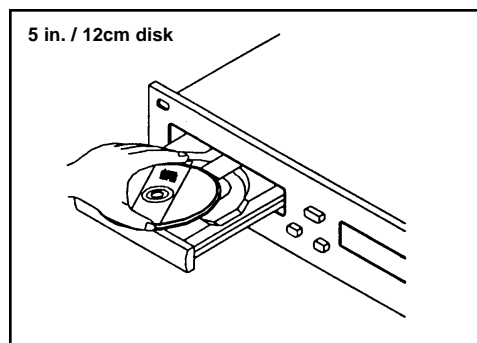
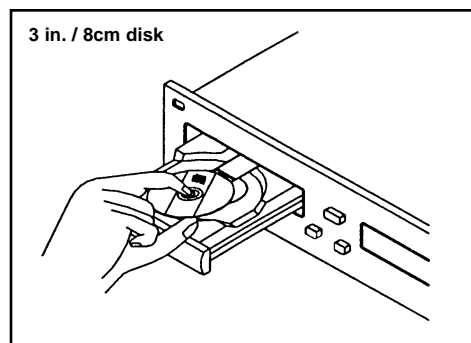

Fig. 8
Fig. 9
- When using 5 inch/12 cm discs, place the disc in the outer tray guides (Figure 8), and when using 3 inch/8 cm discs, place them securely in the inner guides (Figure 9).